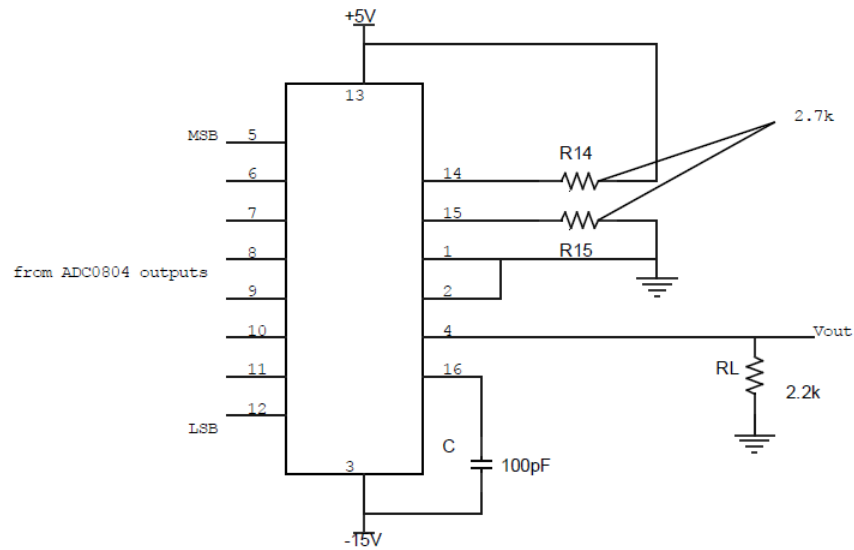

Figure 10-3 DAC0808 Circuit Connections
- Construct the DAC circuit shown in Figure 10-3 below.